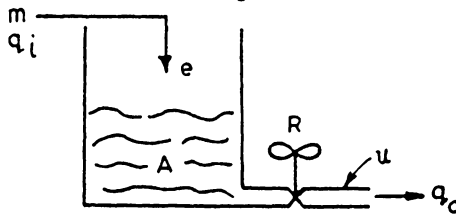

Fig. 1.25
**1.44. Single Tank block diagram :** Shown in Figs. 1.25 and 1.26